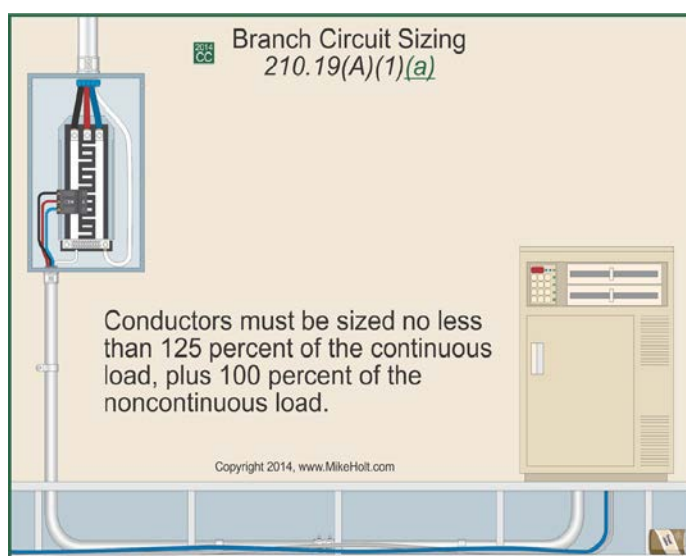

Figure 6-50
- (a) Conductors must be sized no less than 125 percent of the continuous loads, plus 100 percent of the noncontinuous loads, based on the terminal temperature rating ampacities as listed in Table 310.15(B)(16). **Figure 6-50**